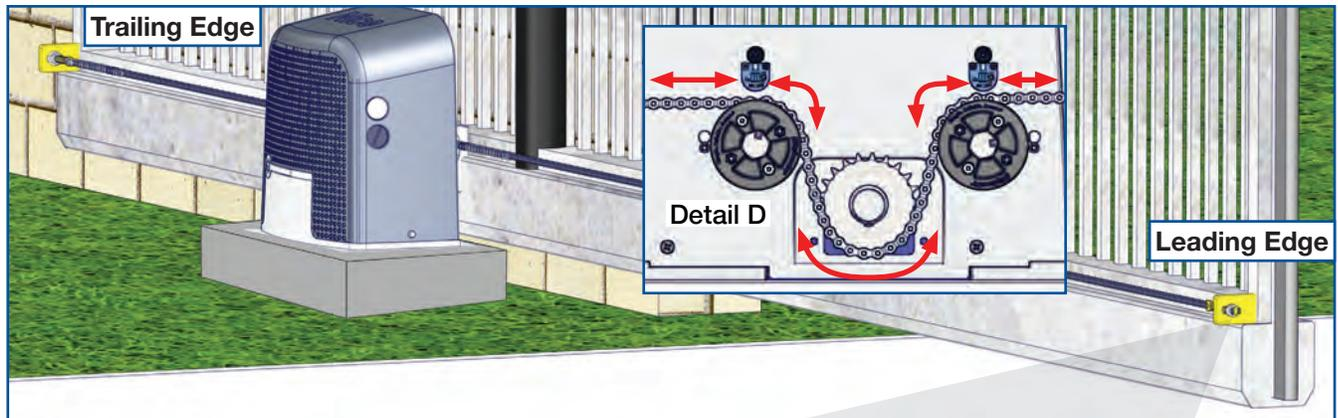

FIG. 4-3: Bracket Location and Chain/Bolt Assembly
3. Install a chain bracket at the gate leading and trailing edges (FIG. 4.3). The bracket can be welded in place to a steel gate. Alternatively, the bracket can be bolted to the gate. Use the bracket as a template and drill three 8mm (5/16") diameter holes through the gate frame. Secure with 8mm (5/16") bolts (not provided).
4. Attach the eye bolts to brackets, and then chain to eye bolts (as shown in FIG. 4-3).